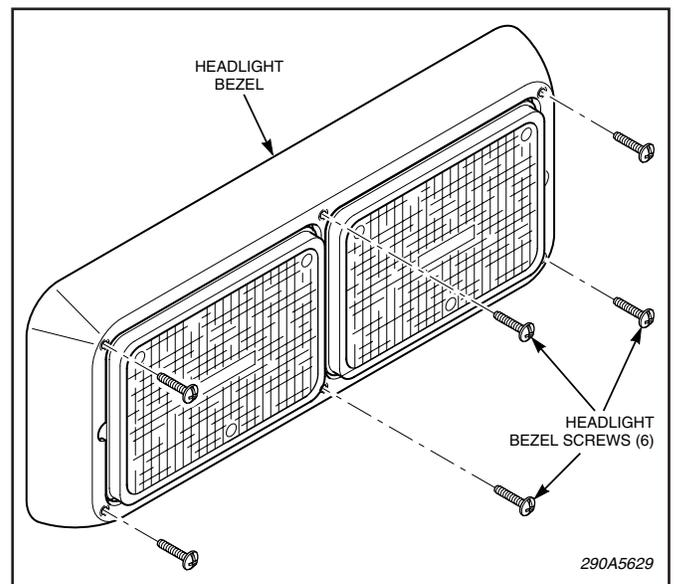

Figure 1.
1. Select the headlamp bezel cavity where the QL64 light assembly will be installed. See figure 1. Remove and retain the six screws that secure the headlight bezel in position and remove the headlight bezel.
9. See figure 1. Secure the headlight bezel and rear housing using the four remaining screws.